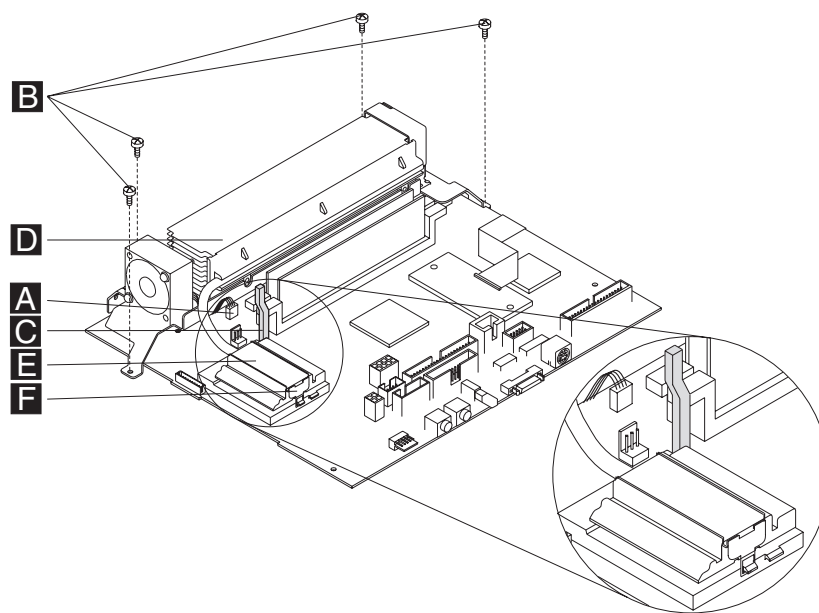

Figure 74. Removing the processor
4. Disconnect the fan power cable **A** from the system board, as shown in Figure 74.